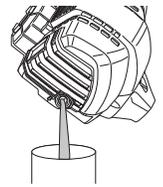

Fig. 37
2. Pour the oil out of the oil fill hole and into a container by tipping the unit to the side (Fig. 37). Allow ample time for complete drainage.